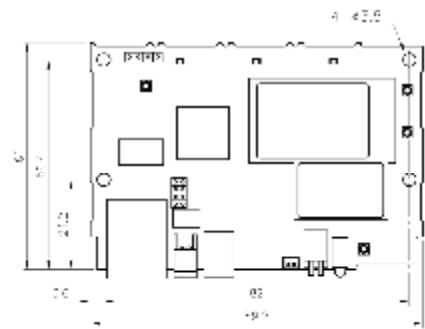

Figure 2
- Figure 2 shows the locations the mounting holes for installing this product and external dimensions.